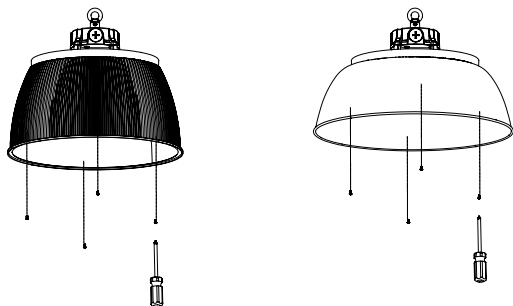

Figure 13
2. Confirm Installation: Ensure the reflector is firmly attached. (See Figure 13)